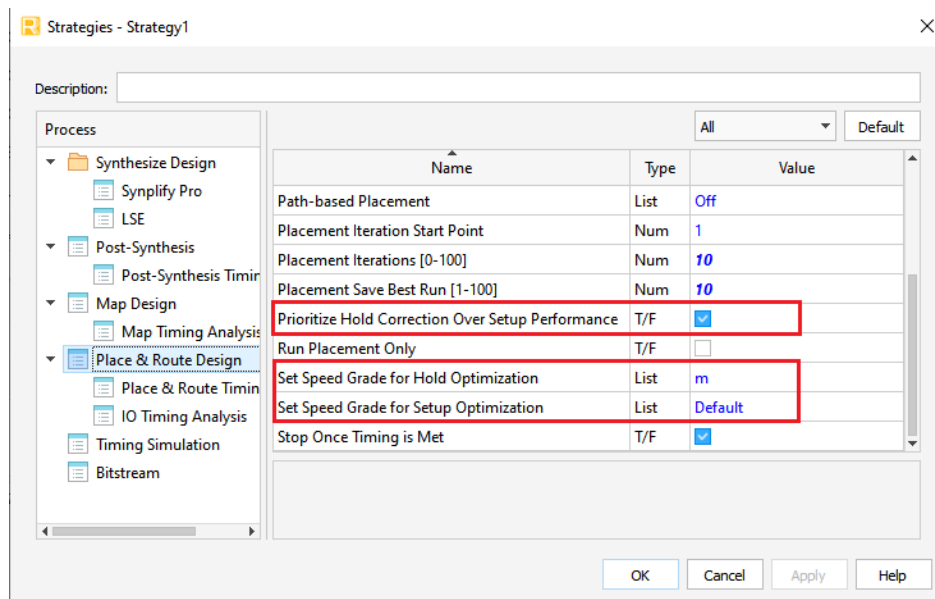

Figure C.92. PAR Setting for Node system Bit File Generation
11. Select **Place and Route Design** and only apply the settings shown in Figure C.92.